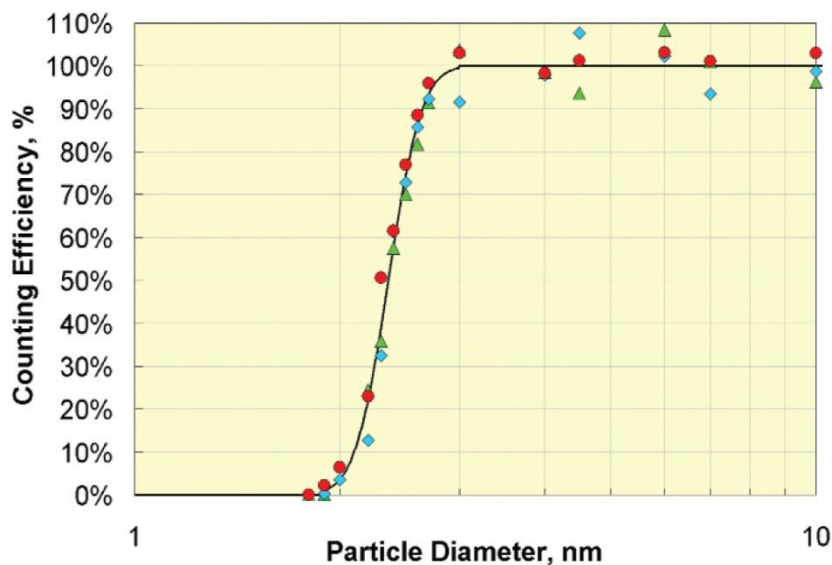

Figure 2: CPC Model 3776 counting efficiency curve using monodisperse sucrose aerosol as the challenge aerosol and an electrometer as the reference detector.
2. **Minimum Detectable Particle Size**—The minimum detectable particle diameter of a CPC can be described with a detection efficiency curve where the CPC counting efficiency versus a standard is plotted as a function of particle diameter (Figure 2). A steeper curve is generally preferred, so the counting range of the CPC can be more precisely defined. The minimum detectable particle size is commonly defined as the diameter at which 50% of the particles are detected by the counter (D_{50}). Typically, a lower detectable particle size is associated with a more complex instrument. The primary factors affecting the D_{50} are: